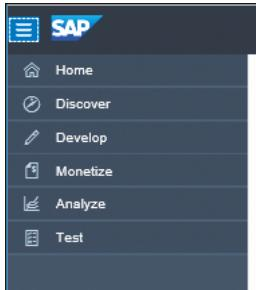

Figure 9.47 Overview of the API Portal
5. The next screen presents an overview of the API Portal, which contains information such as API traffic, error, usage, performance, applications, and so on. From here, select the **Develop** link on the menu located in the left panel (see Figure 9.47).